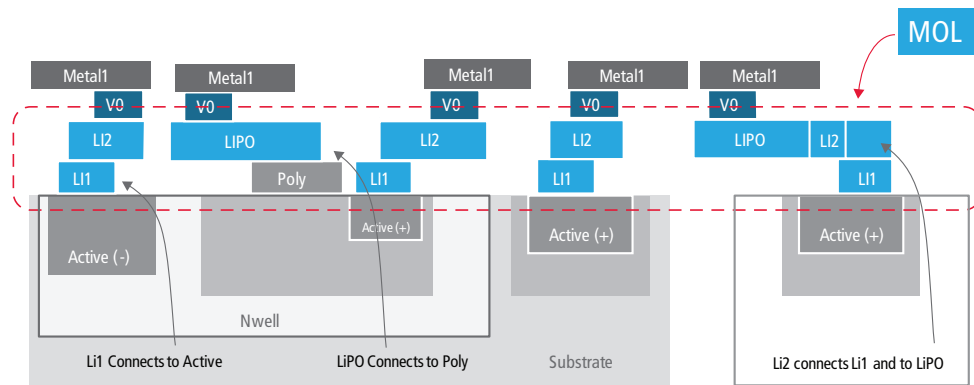

Figure 8: Local interconnect layers provide additional routing density
For many custom designers, 20nm is all about density. Local interconnect (LI) layers—also called middle-of-line (MOL) layers—offer one way to achieve very dense local routing below the first metal layer (Figure 8). There may be several of these layers, and most don't use contacts; instead, they connect by shape overlap without any need for a cut layer. Getting rid of contacts makes routing denser because contacts are bigger than nets, and can't be placed too close to nets.